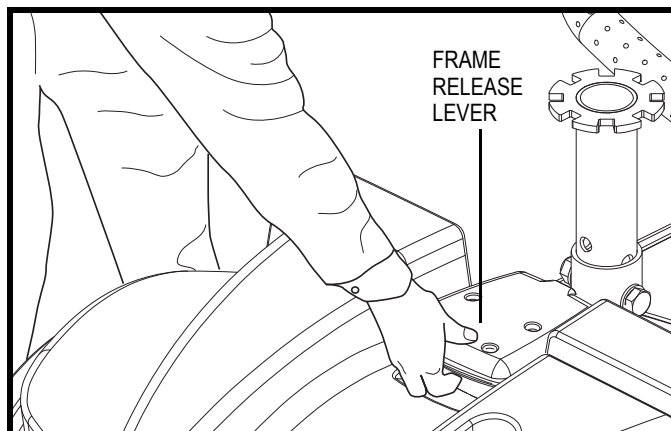

Figure 23. Frame Release Lever
3. Grasp and lift up on the frame release lever. See **figure 23**.